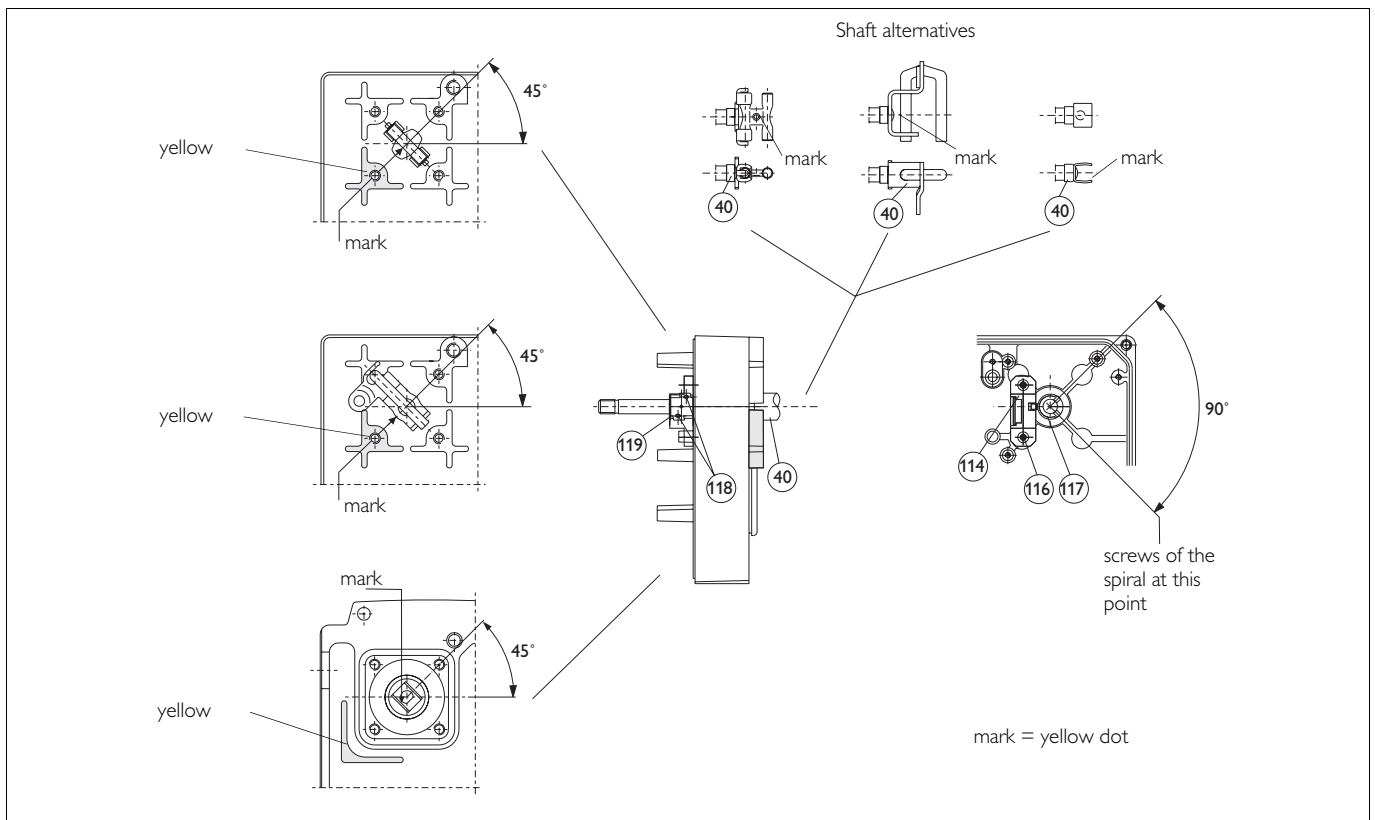

Fig. 15. Position sensor
- Mount the new sensor and spiral together as a pair. Slide the spiral back onto the shaft and replace the lock ring on the shaft. Turn the spiral and the shaft to the position shown in the Fig. 15, corresponding to a 45° valve opening. Tighten the M3 screws.
- Install a 0,1 mm (0.004 in) thick gauge strip between the sensor and the spiral. Press the sensor against the spiral, without using unnecessary force, and tighten the screws (116) evenly. Remove the strip.
- Mount the circuit board and the protective cover (46) as directed in 5.3.